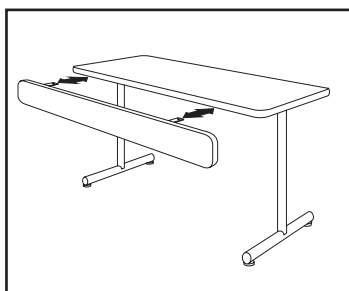

**Figure 1**
1. Place table top upside-down on a smooth clean surface so table top is not damaged. Fasten hanger brackets to the table using four #10 x 1" screws, not to exceed 40 in/lbs of torque (Figure 1).